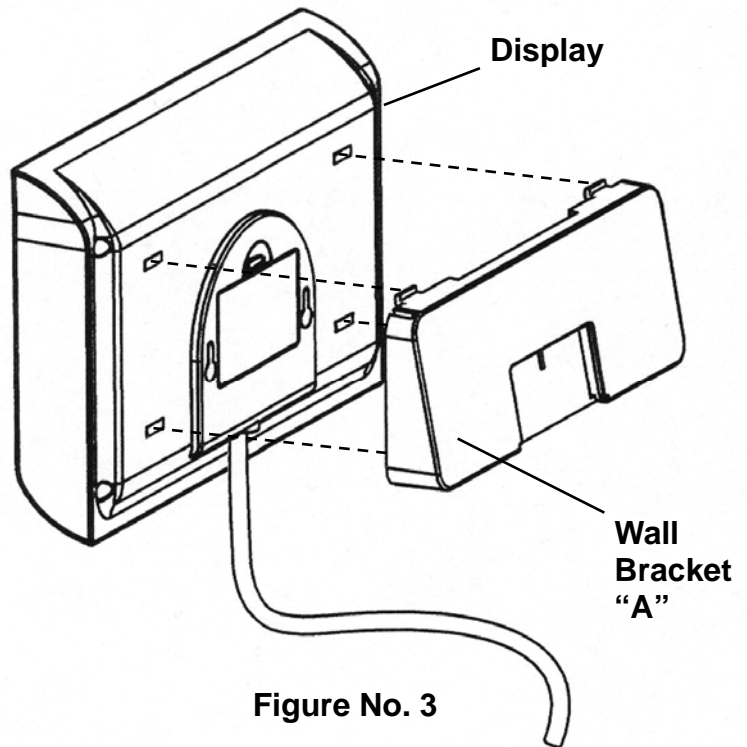

Figure No. 3
8. Next, locate the four (4) slots on the back of the display and align them with the four (4) tabs on the Wall Bracket "A". Refer to Figure No. 3.